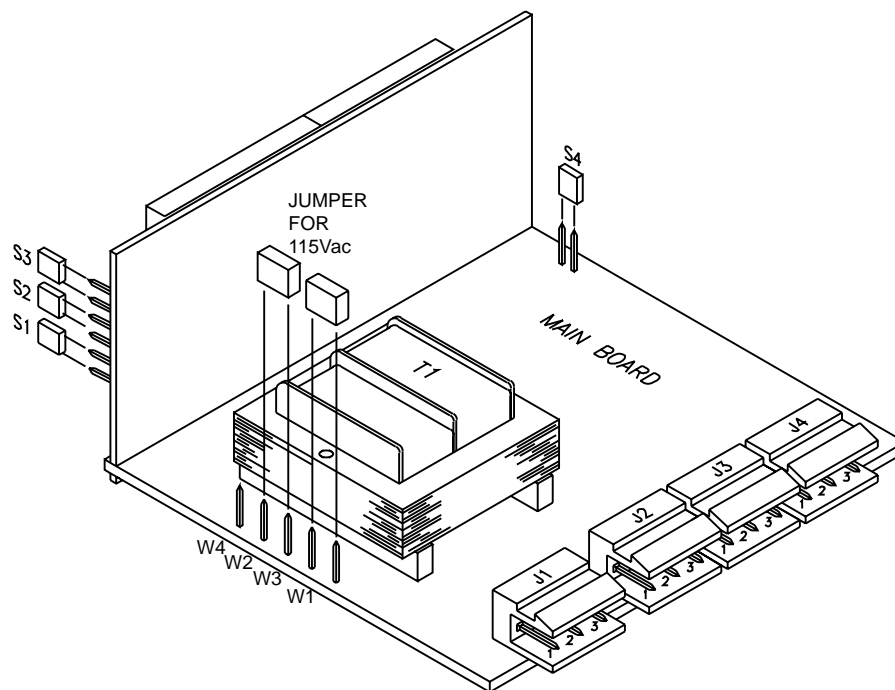

Figure A-1. 115Vac Jumper Wiring (Default)
3. If your power requirement is 115 Vac, install jumpers W1 and W2. If your power requirement is 230 Vac, install jumpers W4 and W3. Refer to Figures A-1 and A-2.